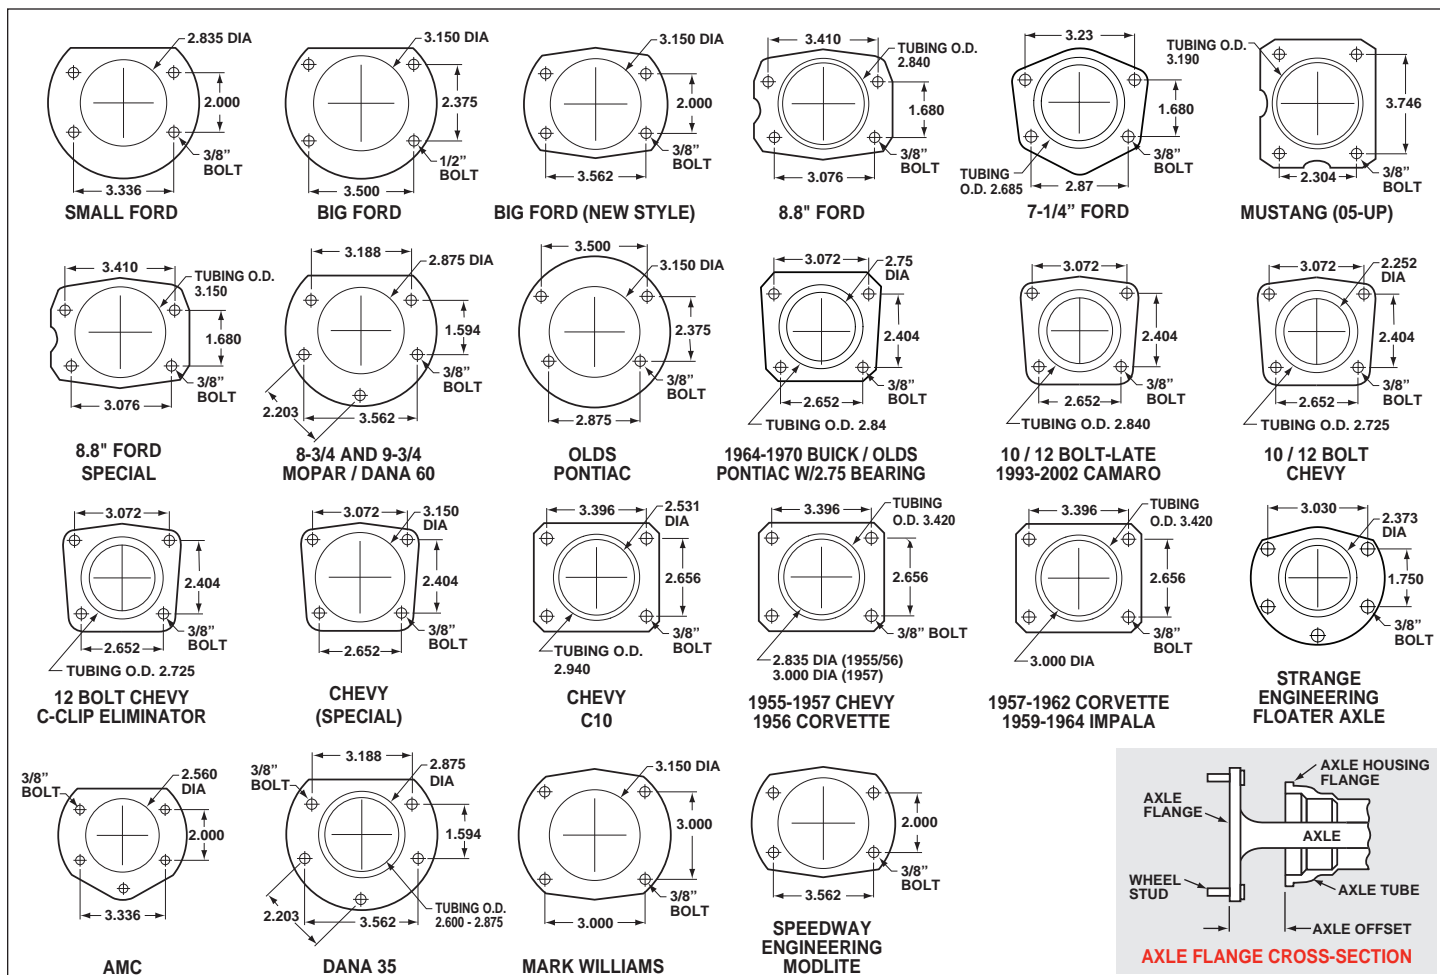

Figure 5. Rear Housing Flange Chart and Axle Flange / Offset Cross-Section
- Make sure this is the correct kit to fit the axle housing flange, not necessarily the rear end make. Many times after market manufacturers put a different make of axle housing flange on the stock rear end housing (see Figure 5). Example; Big Ford rear ends with Olds-Pontiac flanges, therefore, an Olds-Pontiac rear disc brake kit would be the correct kit to order. Also, shock clearance may be a problem. They may have to be modified and/or relocated to clear the Wilwood kit after final assembly.